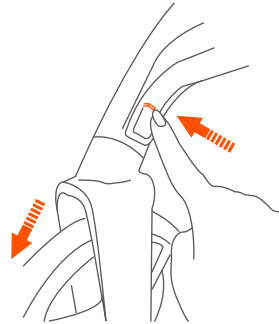

Fig. 15
- 15)** • First rotate the wheel upward to view the pin hole. Push in release button on the inside of the wheel hub and pull wheel assembly from hub (Fig. 15).